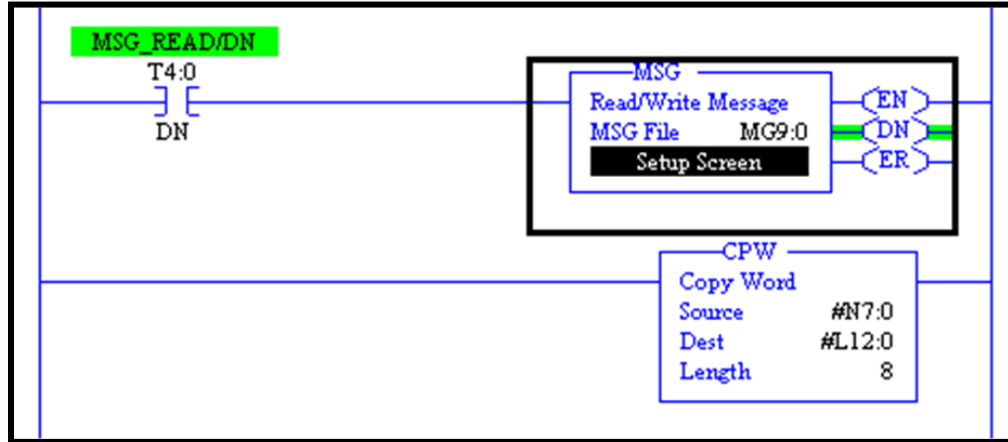
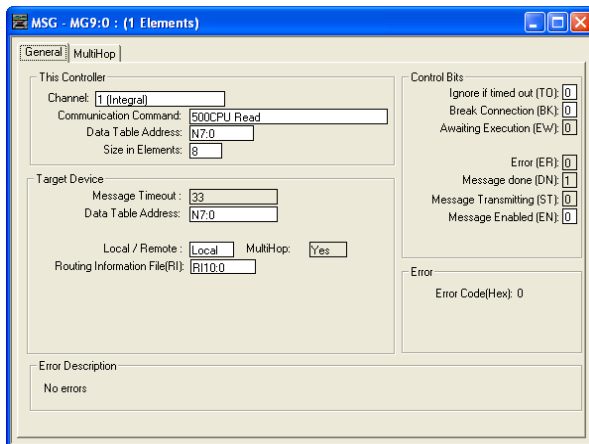

Figure 2. Ladder Logic Fragment: Polling An EtherMeter For Data.
Figure 3a. Message Instruction Details: EtherMeter Totalization & Flow Rate Data
In the ladder logic fragment illustrated in Figure 2, a timer-initiated message instruction is performed to read meter totalization and flow rate data from two (2) attached meters. When using EtherNet/IP, the data is read from the EtherMeter's N7:0...7 registers; and the data is later transferred into the PLC's long-integer registers for future mathematical manipulations. (For Modbus/TCP, the data would be read from the EtherMeter's 40001...40008 registers.) The setup of the EtherNet/IP message instruction is illustrated in Figures 3a and 3b.